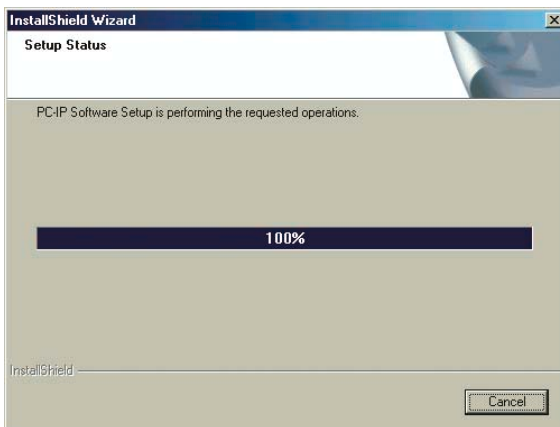

Figure 2-8
10. As shown in Figure 2-8, the installation program is now ready to copy the program files to your computer and setup the appropriate drivers and icons. Click Next to complete the installation.